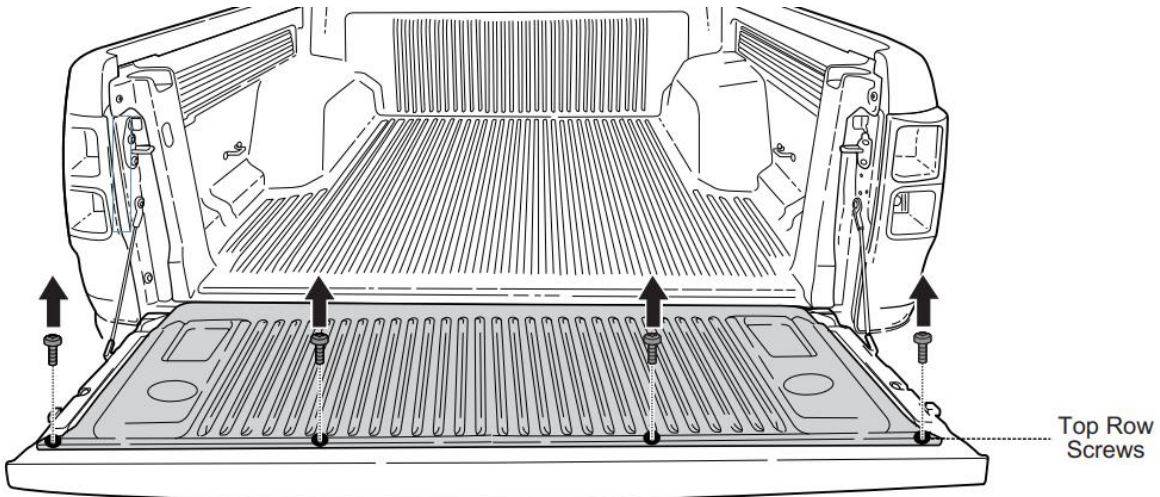

Figure 4
- a. Unscrew the 4 factory screws as shown. The aluminium tailgate rail can go on top of the tailgate liner and the 4 factory screws can be used again to attach the tailgate rail. *See Figure 4*